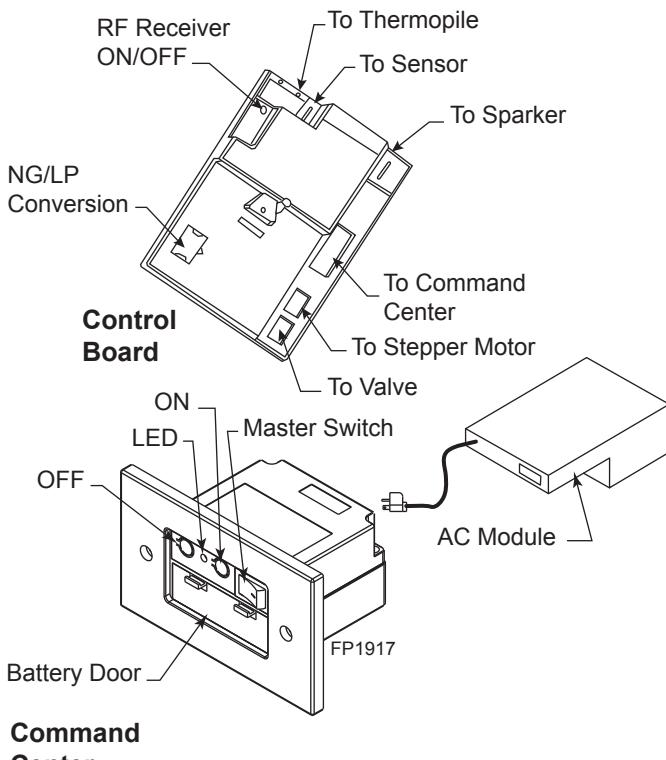

Figure 40 -
1. The RF receiver button located on the Control Board must be in the on position before the learn function can begin. Use paper clip to depress button. One beep for RF receiver ON or two beeps for RF receiver OFF will be given as confirmation. Refer to Figure 40 for location.